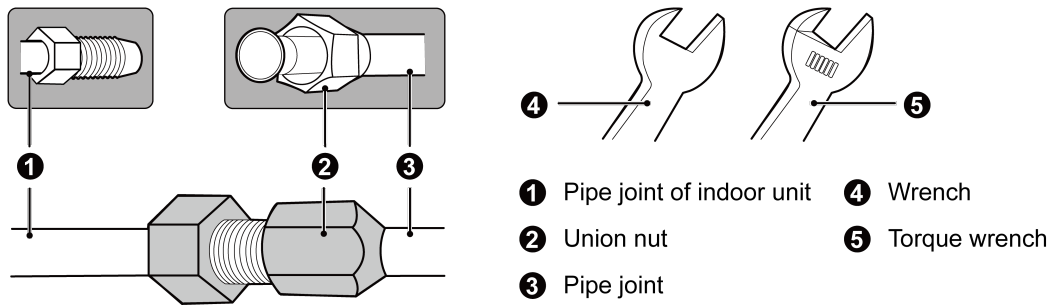

Fig 4.7
- (1) Direct the flaring of copper pipe to the center of screwed connection and then screw the flaring nut tight as shown in Fig 4.7
- (2) Use a torque wrench to tighten up the flaring nut until the wrench gives out a click sound.